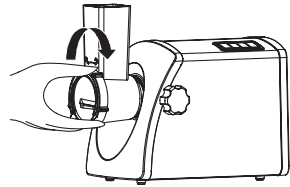

Figure 16.
4. Fasten the shredding fixing ring and turn clockwise to tighten the ring (fig. 16).